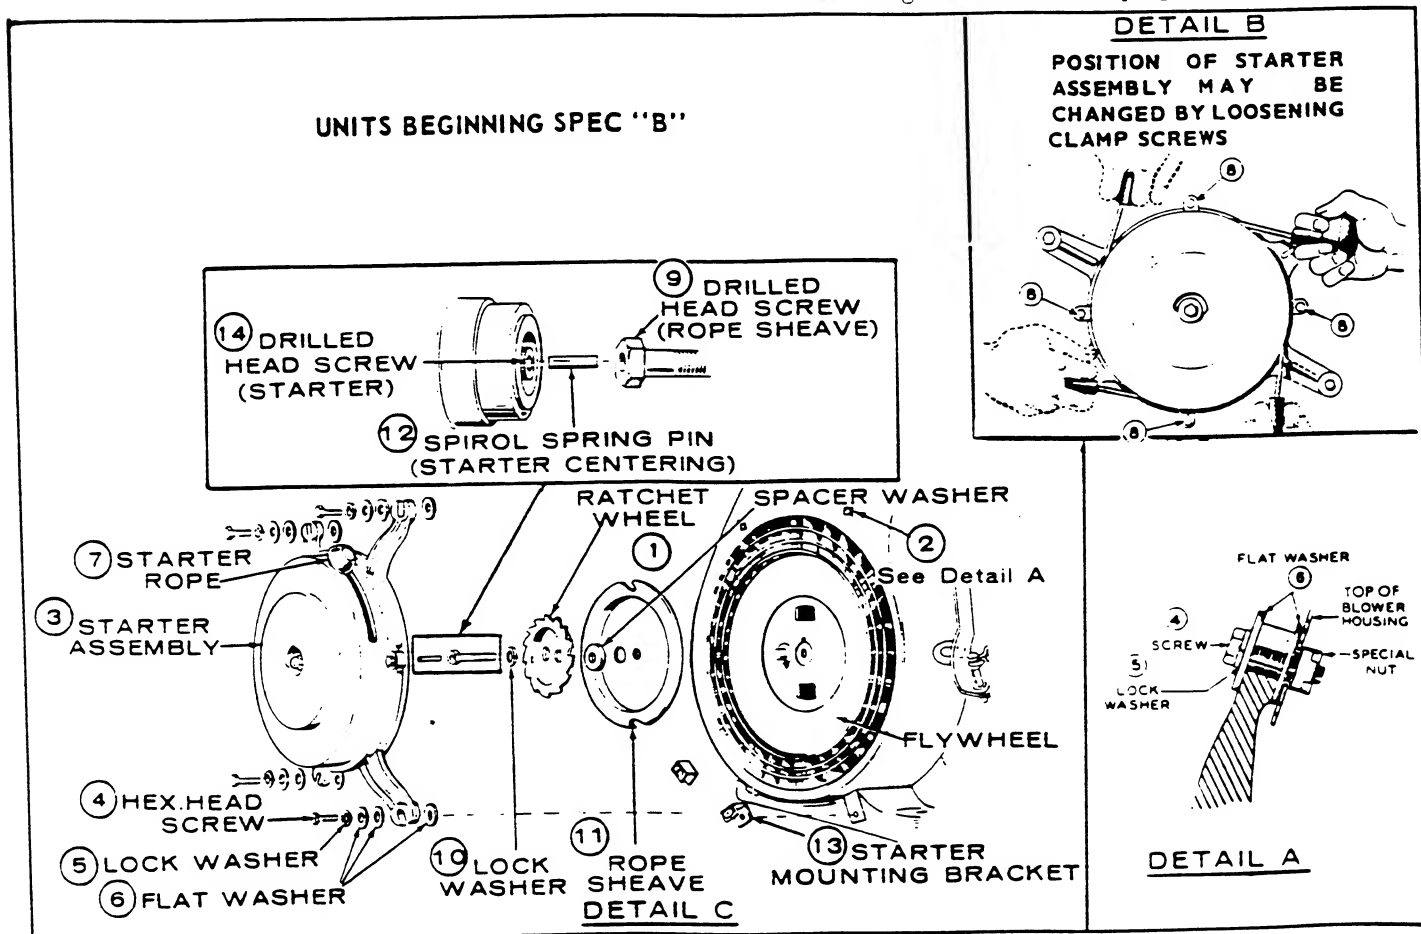

FIG. 22
6. The direction of pull on the starter rope is adjustable to fit the requirements of the individual installation. See detail B. To change the direction of pull, loosen the four clamp screws (8) and turn the starter in its mounting ring to the desired position. Tighten the four clamp screws securely. Try the starter several times, making sure that the pull rope will not rub against one of the clamp screws.
**Units Beginning Spec B:** See that the engine blower housing is in good condition. If the mounting holes are worn or if the blower housing is otherwise damaged replace it with a new one. Refer to Fig. 22.
1. Install the new ratchet wheel (1) against rope sheave (12) using lock washer (11) and flywheel mounting screw (10). Discard the large flat washer from engine so equipped. Engage drive hole with flywheel boss.
2. Special nuts (2) are supplied for mounting the starter to the blower housing. If the blower housing is not already fitted with similar nuts, remove the blower housing and install the nuts as shown in detail A. Reinstall the blower housing, tightening securely in place.
4. Install centering pin (12) in starter center screw (9) allowing  $3/8$ " to protrude so it will engage with pilot hole in the flywheel mounting screw.
5. Center the starter assembly over the ratchet wheel with the centering pin (12) engaged. While holding in position, mount the starter using a hex head screw (4), lock washer (5) and two flat washers (6) at each mounting arm as shown in detail A. Note a thin flat washer is used under each arm and a thick washer outside the arm. Tighten the mounting screws securely.
7. The direction of pull on the starter rope is adjustable to fit the individual installation. See detail B. To change the direction of pull, loosen the four clamp screws (8) and turn the starter in its mounting ring to the desired position. Tighten the four clamp screws securely. Try the starter several times, making sure that the pull rope will not rub against one of clamping screws.